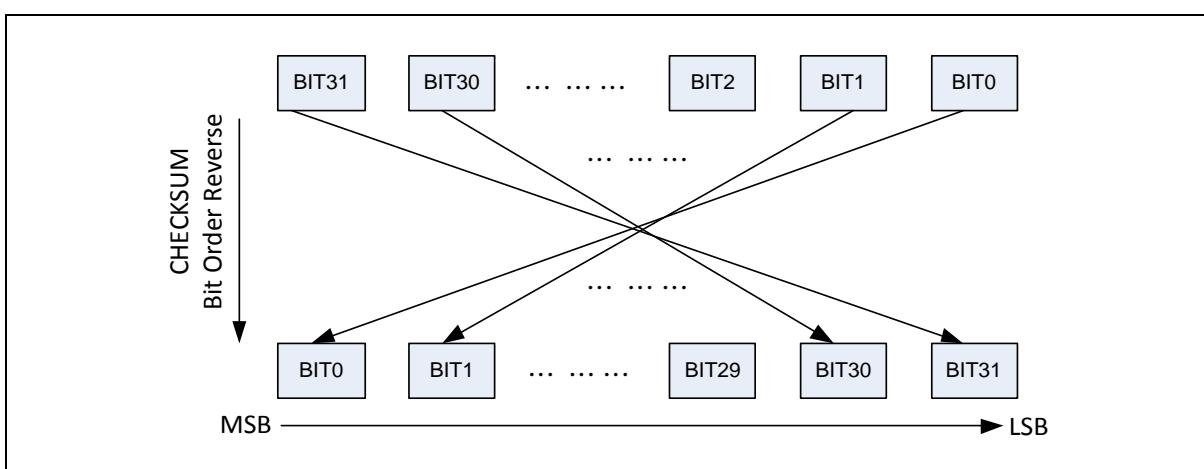

Figure 6.35-2 CHECKSUM Bit Order Reverse Functional Block
- 1) Configure bit order reverse for CRC checksum by setting CHKSREV (CRC_CTL[25] Checksum Bit Order Reverse). The functional block is also shown in Figure 6.35-2 CHECKSUM Bit Order Reverse Functional Block